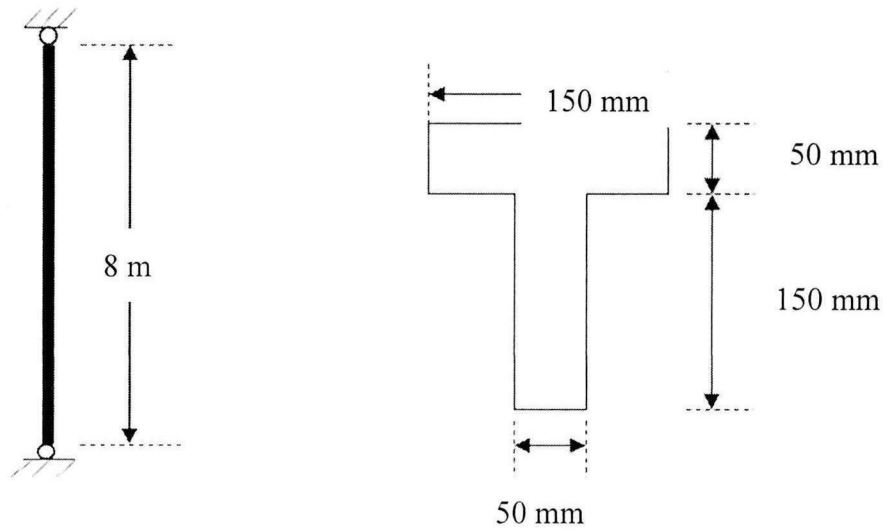

FIGURE Q3(b)
- (b) An 8 m long steel column having an Elastic Modulus of 200 kN/mm² and the cross section shown in **Figure Q3(b)** is to be used in a building. The safety factor is taken as 2.0. Assumed both ends of the column are pinned.